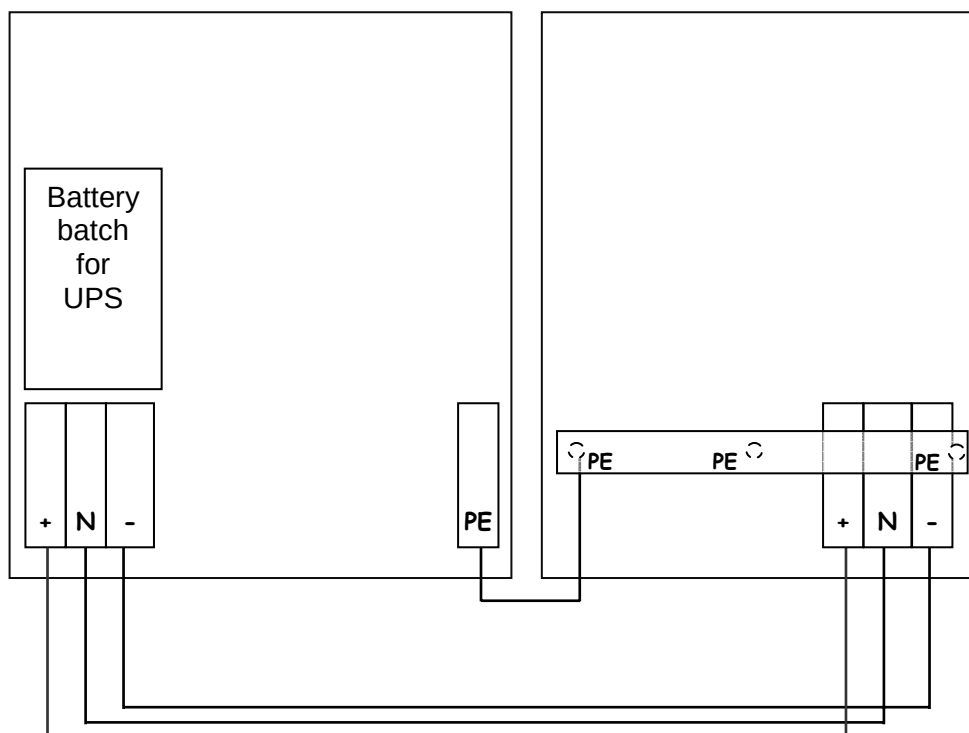

Figure 3.7 Connection of external batteries
It is normally recommended for redundant Multi-Cabinet systems to provide each UPS-Cabinet with its own separate battery. In this way the redundancy is extended also to the batteries. In the Figure 3.7 the drawing shows how to connect the batteries in the external battery cabinet CBAT-M and the UPS conceptpower Maxi Line.
- 6) Connect the corresponding + , N, - terminals between UPS and external battery cabinet according to drawing in Figure 3.7.